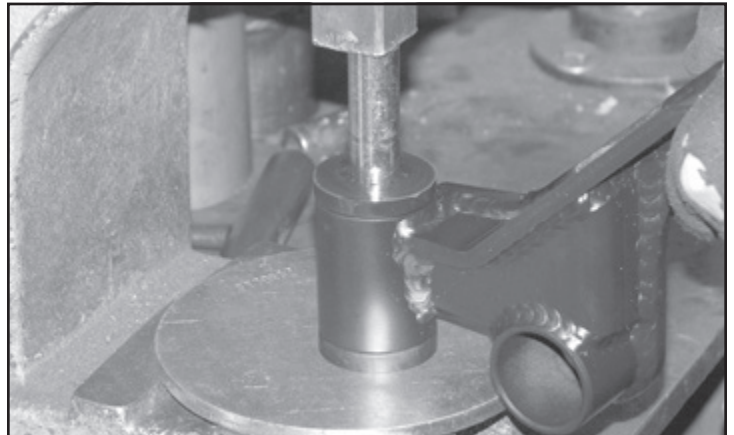

FIGURE 29 - STEP 30
30. Locate the rear diff mount (FT30565BK). Install two of the Fabtech (FT1020) bushings and one sleeve (FT181) into the barrel on the differential bracket. **SEE FIGURE 29**